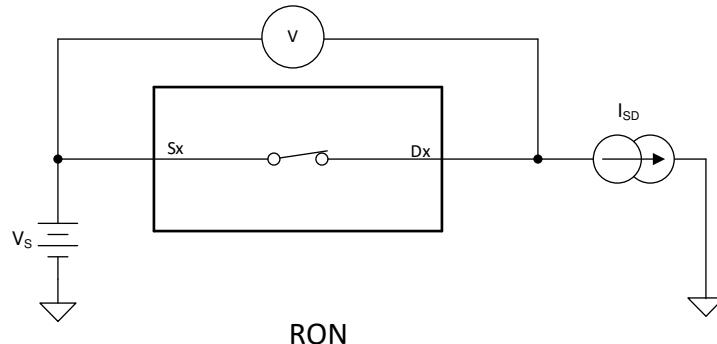

Figure 6-1. On-Resistance
The on-resistance of a device is the ohmic resistance between the source (Sx) and drain (Dx) pins of the device. The on-resistance varies with input voltage and supply voltage. The symbol R_{ON} is used to denote on-resistance. Figure 6-1 shows the measurement setup used to measure R_{ON} . Voltage (V) and current (I_{SD}) are measured using the following setup, where R_{ON} is computed as $R_{ON} = V / I_{SD}$: